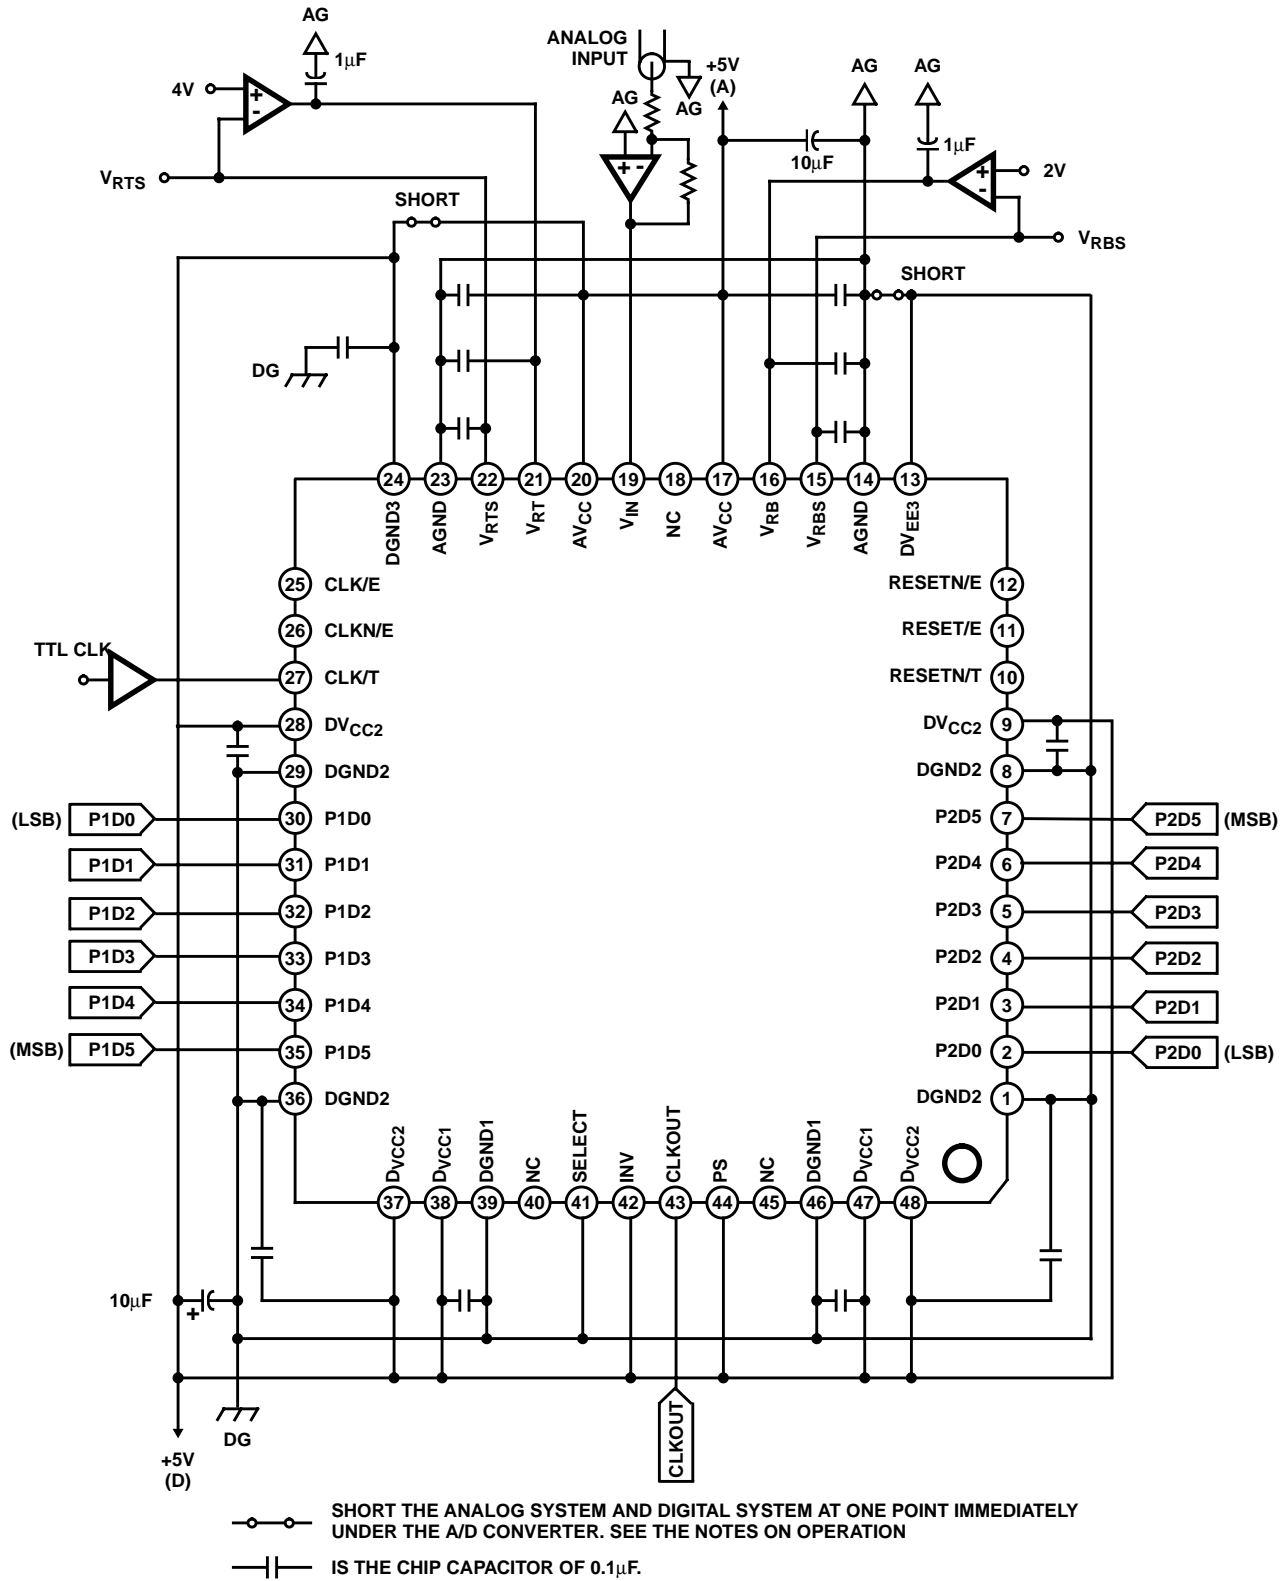

FIGURE 25. STRAIGHT MODE TTL I/O (WHEN A SINGLE POWER SUPPLY IS USED)
- The offset for residual is generated each for the reference voltage pins V_{RT} and V_{RB}. When the offset voltage has no influence on the IC operation, the voltage should be applied to the V_{RT} and V_{RB} pins directly, keeping the V_{RBS} pin open. When the reference voltage is to be supplied to these pins precisely, form the feedback loop circuit with V_{RT} and V_{RB} as a force pin and adjust the offset voltage to be 0V. See Figure 25 for details.